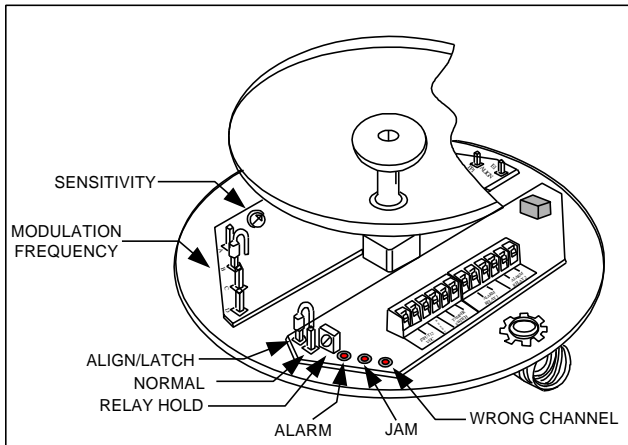

Figure 17 – Model 300BR Receiver
4. Attach the PCB jumper wires to appropriate terminal for the desired Receiver channel. (See Figure 17.)
5. Move the Align/Latch – Normal jumper to Latch position on the Receiver. (See Figure 17.)
6. On Receiver, connect VOM to TPI (Positive) and E1 GND (Negative) with meter range set to 3-5 VDC. (See Figure 17.)